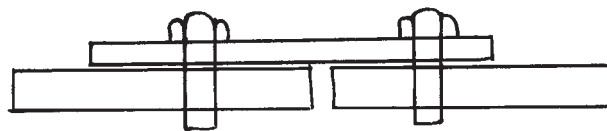

Fig. No. 1
- a) Calculate the bolt strength of 20 mm dia bolt of grade 4.6 for single cover butt joint. The thickness of cover plate is 10 mm and thickness of main plate is 12 mm. As per shown in the **Fig. No. 1.**